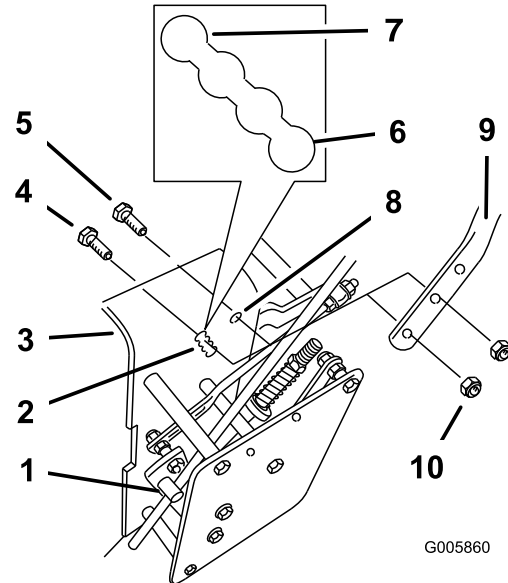

Figure 18
5. Loosen the upper flange bolts ($3/8 \times 1-1/4$ inches) and flange nut securing the handle to the rear frame (Figure 18).
6. Remove the lower flange bolts ($3/8 \times 1$ inch) and flange nuts securing the handle to the rear frame (Figure 18).